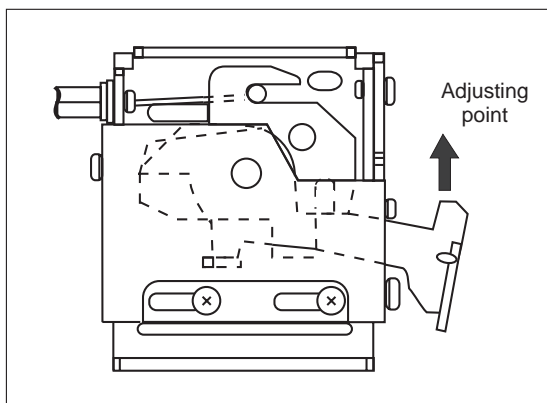

Fig. 4-65:
- ③ The gap between the adjuster and the cover of the wire must be 0 (zero). If not so, adjust the gap to 0 (zero) by turning the adjuster (see fig. 4-65). The adjusting point is a point which starts to move by turning the adjuster.